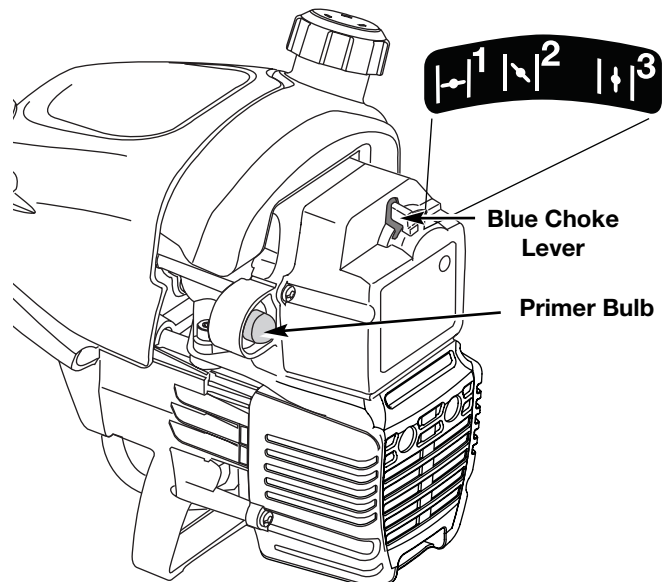

Fig. 10
2. Fully press and release the primer bulb 10 times, slowly. Some amount of fuel should be visible in the primer bulb and fuel lines (Fig. 10). If you can't see fuel in the bulb, press and release the bulb as many times as it takes before you can see fuel in it.
3. Place the blue choke lever in **Position 1** (Fig. 10).
5. Place the blue choke lever in **Position 2** (Fig. 10).
8. Once the engine is warmed up, place the blue choke lever in **Position 3** (Fig. 10). The unit is ready for use.
IF... the engine hesitates, return the blue choke lever to Position 2 (Fig. 10) and continue warm-up.